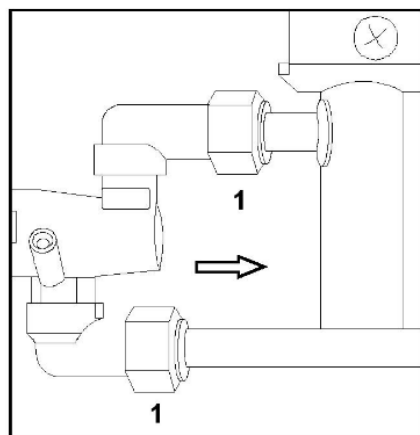

FIG.19 (Substitution gas tap)
- Disconnect the tap from its respective gas pipe-fittings (**FIG.19-Ref.1**).